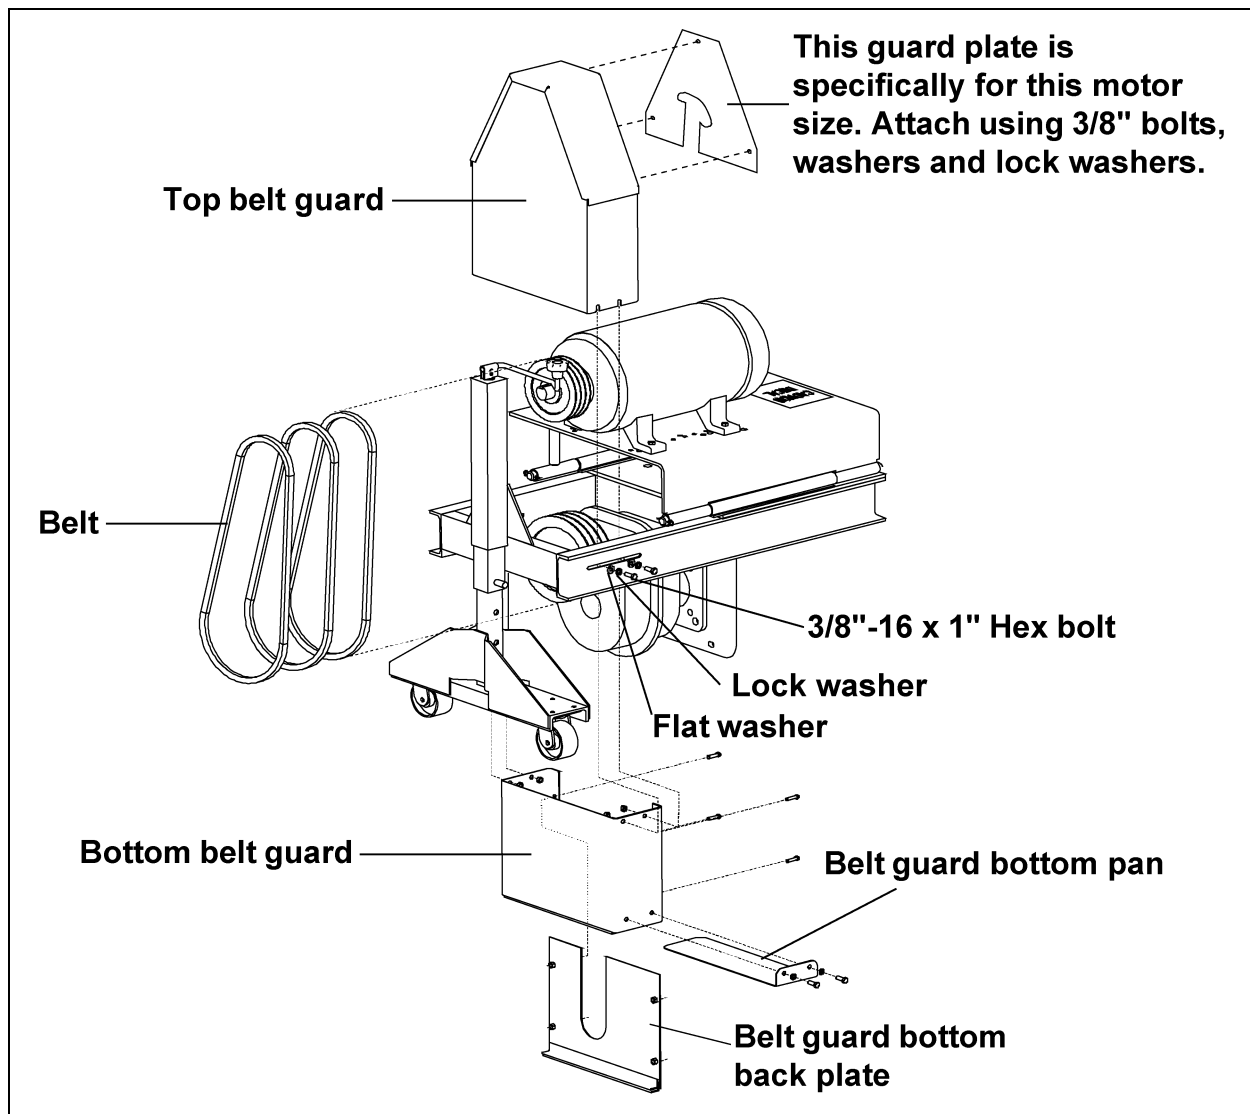

Figure 5Z
F. Carefully install the belts onto the large and small sheaves. (See Figure 5Z on Page 44.)
G. Loosely bolt the bottom belt guard to the motor mount using four (4) 3/8"-16 x 1" hex bolts, flat washers and lock washers. (See Figure 5Z.)
H. Slide the top belt guard over the bottom belt guard as shown in Figure 5Z and tighten bolts.